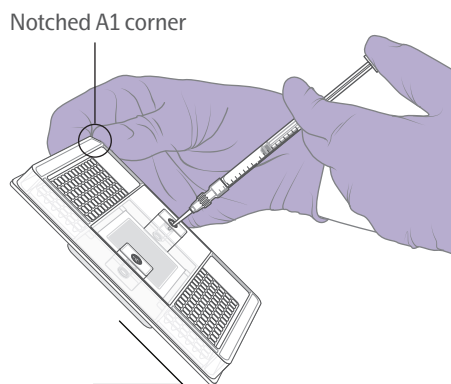

Figure 12. Inserting the syringe into the accumulator. Note the position of the notched A1 corner.
4. Holding the chip at a 45° angle, insert the syringe tip into the top accumulator (Figure 12).